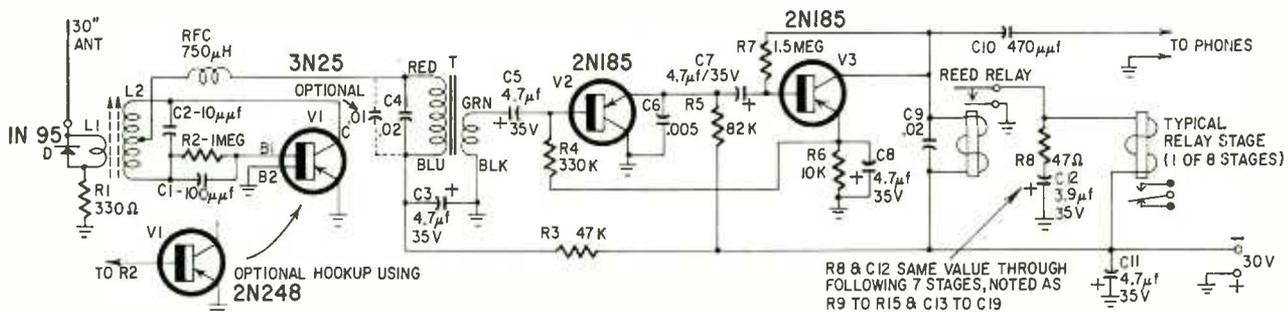

Fig. 1—Circuit of the 3-transistor receiver. Each reed of the reed relay operates at a different frequency and triggers a different control circuit.
1 See Fig. 1 caption for later transistor types.
- V1—3N25 or 2N248 (see Fig. 1 caption)
- V2, V3—2N185 (see Fig. 1 caption)